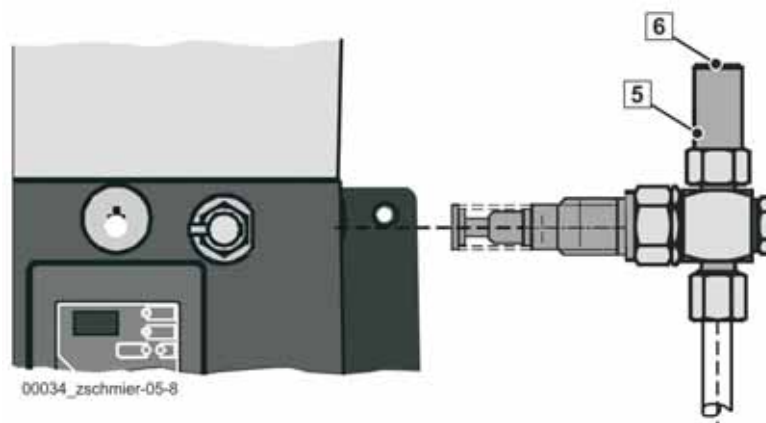

Fig. 526
A pressure relief valve (5) (**Fig. 526**) protects the entire lubrication system against excessive system pressures. It is mounted directly on the pump element.
If a clogged distributor or lubrication point causes an operating pressure of over 300 or 200 bar, the valve opens and grease will visibly emerge from the escape point (6) (**Fig. 526**).